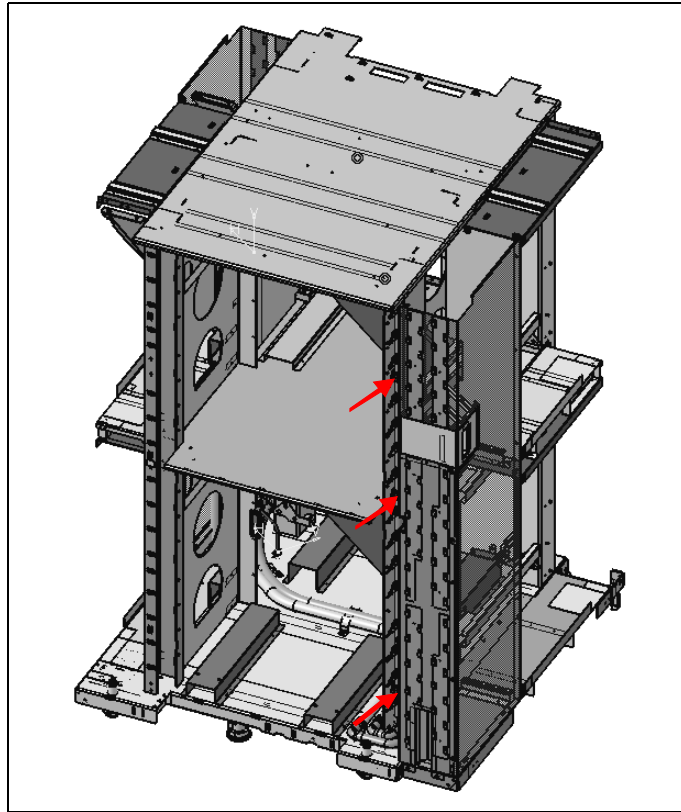

Figure 4-45 Coolant manifold replacement screw locations (front)
29. The person at the front of the machine must remove the three screws from the three manifold clamps (working bottom to top of the manifold), being careful to hold the manifold pipes, while removing the last screw, so that they do not fall. See Figure 4-45.